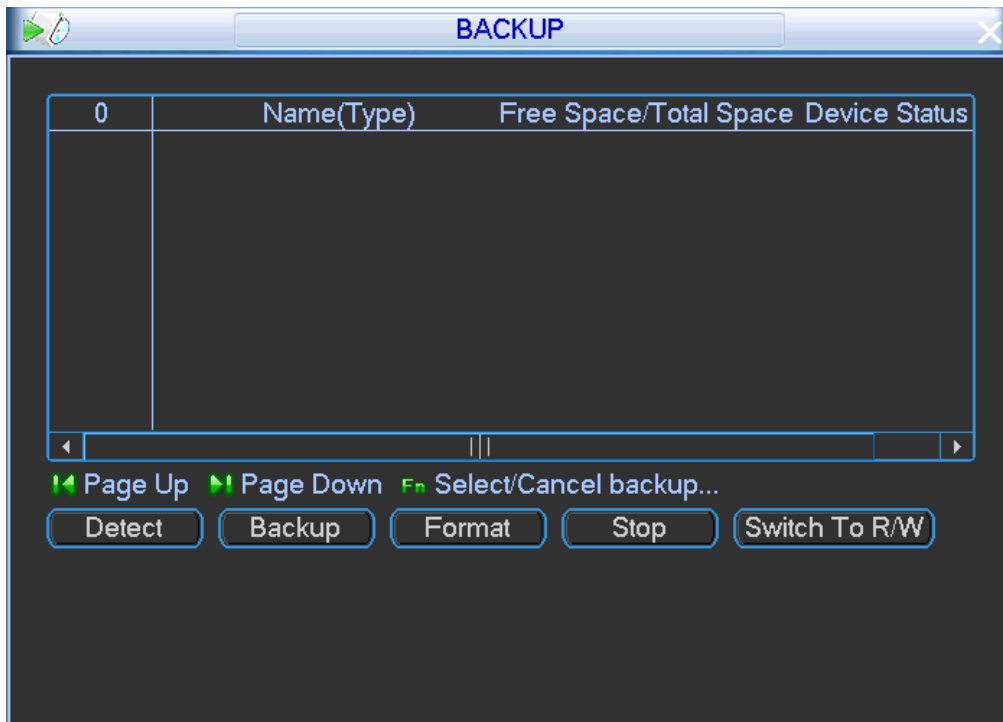

Figure 4-49
- Step 1 On the main menu, click Backup button, or on the File list interface click , Enter Backup interface. See Figure 4-49.